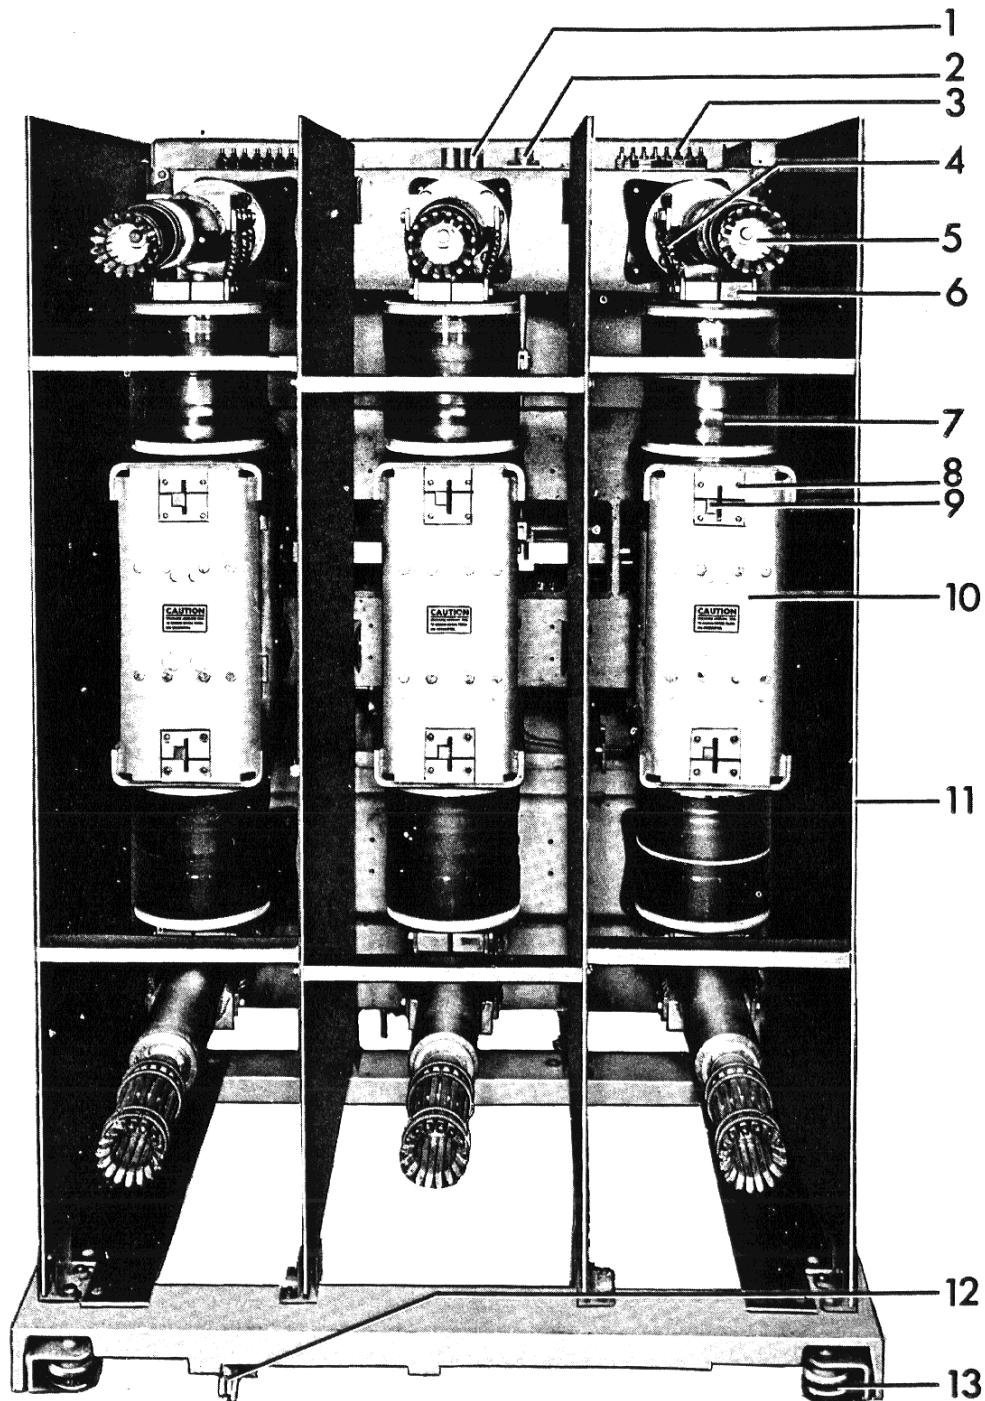

Figure 6. (8040295) Breaker-Rear View
similar units, the main element being two vacuum power interrupters (7) Fig. 6 in series whose contacts are hermetically sealed in high vacuum
The ML-15A operating mechanism is of the stored energy type designed to give high speed closing and opening. The mechanism will operate on ac or dc voltage as indicated on the breaker nameplate. Closing and opening operations are controlled electrically by the metal-clad or remote relaying and mechanically by the manual close and trip buttons on the breaker. All secondary connections from the breaker to the metal-clad unit are made through the secondary disconnect devices (3) Fig. 6.
A plunger (2) Fig. 6 can be provided to operate additional auxiliary switch contacts provided in the metal-clad unit.
The primary contact gap can be measured with the indicator (9) Fig. 6 that moves with the contact rod of the interrupters. Mark the indicator